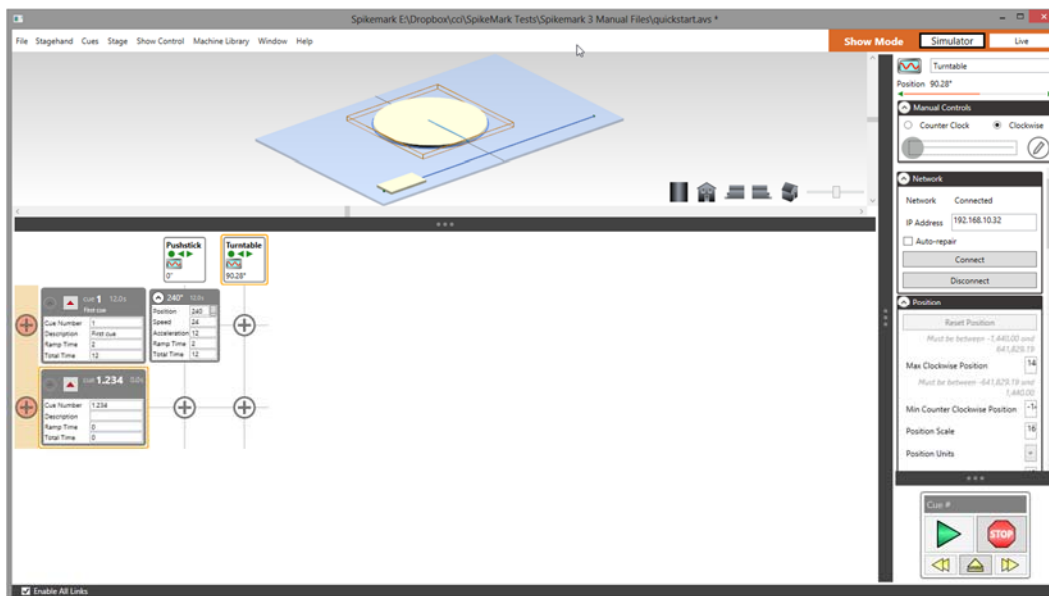

Figure 43
- When the *Turntable* is pointed downstage with a **Position** of roughly 90 degrees, lower the speed slider back down and release it to stop the *Turntable* (Figure 43).